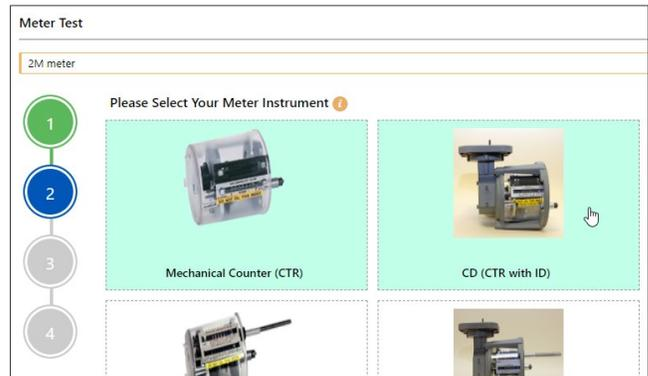

Figure 36: Select Meter Instrument screen
6. On the Step 2 - Select Meter Instrument screen (Figure 36), select the correct instrument for your meter from the choices displayed. Scroll down to see additional choices, if needed.